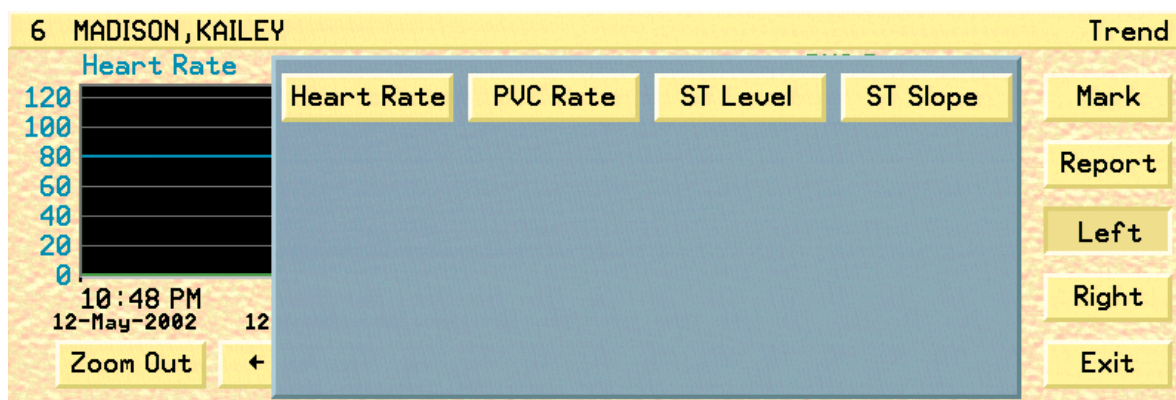

Fig. 78. Trend Parameter Popup
1. Press the **Left** button on the Trend screen. A popup appears listing all available parameters for the selected patient (fig. 78).